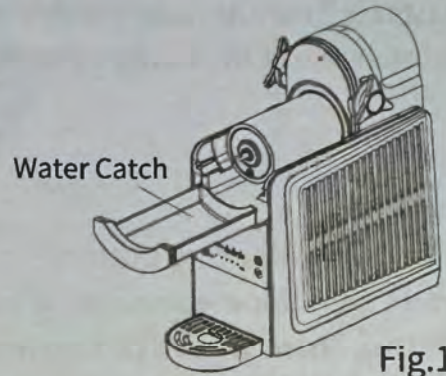

Fig.1
1. Install the water catch under the evaporator by sliding it into the rail grooves (see Fig.1).